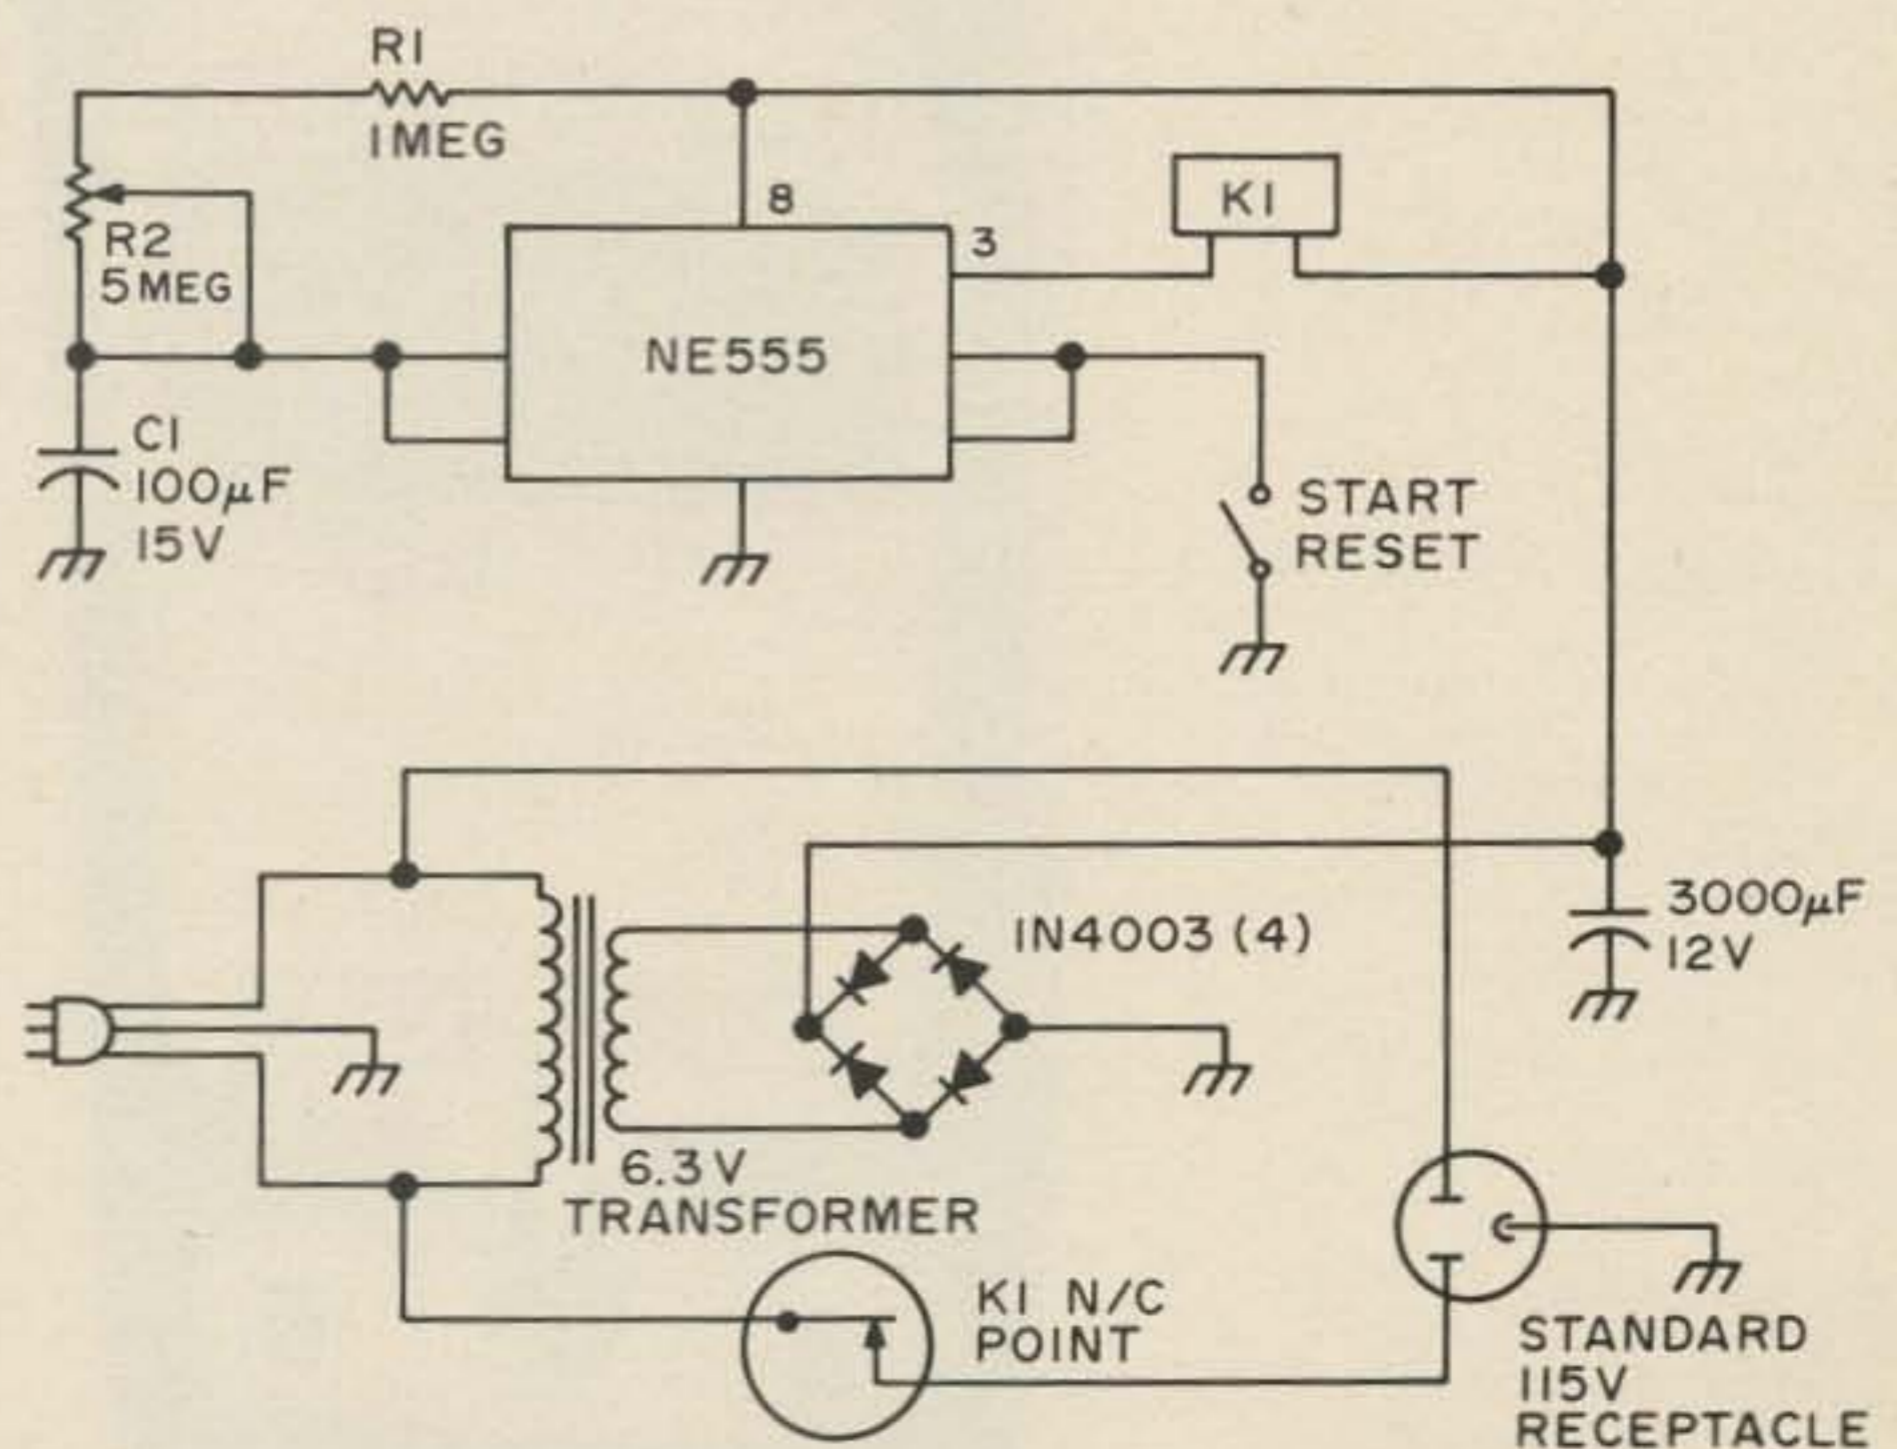

Fig. 1.
**D**o you have a TV in your bedroom? Have you ever fallen asleep and left it on? Or even worse just find yourself falling asleep and remember that you have to get up and turn it off? This versatile timer will turn the TV off from periods of three minutes after you have gone to sleep to periods up to about one hour. You can build this timer in one evening for a total cost of about \$5 even if you have to buy all new components. The circuit I used, shown in Fig. 1, takes advantage of a new integrated circuit from the Signetics Company called the NE555. The NE555 is a very stable monolithic timing circuit in the form of an 8-pin dual in line package. It is currently selling for \$1 from most suppliers.
Back to the 4 PDT switch. It is used to select which 3 digits of the 6 available digits are viewed at any one time. When you throw the switch to the left, you see the left most significant digits and to the right, you see the 3 right most significant. The decimal point jumps around every time to keep you thinking straight. Fig. 1 shows how it works. For an example, we used a forty meter signal that is actually 7,224,362 Hz. This is how the counter sees it: Note the placement of the decimal point; also note that in kHz left and MHz right, the readout is the same, but the decimal point is shifted. That is because, if you look at the original signal you can see
Fig. 1. Here is how the digital display in the Handi-Counter shows the eight complete digits in this forty meter signal. You simply move the digital display around and "look" at different portions of the signal at selected times.